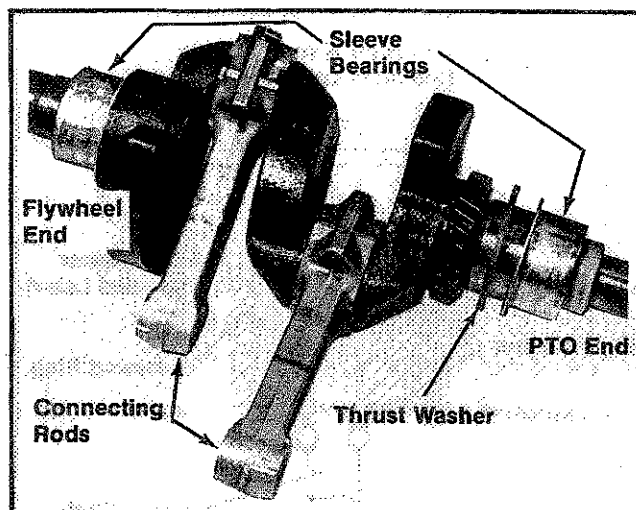

Figure 11-11. Installing Thrust Washer And Bearings To Crankshaft.
1. Lubricate the crankshaft bearing journals with engine oil. Install the .130" thrust washer to PTO end of crankshaft. Refer to Figure 11-11.